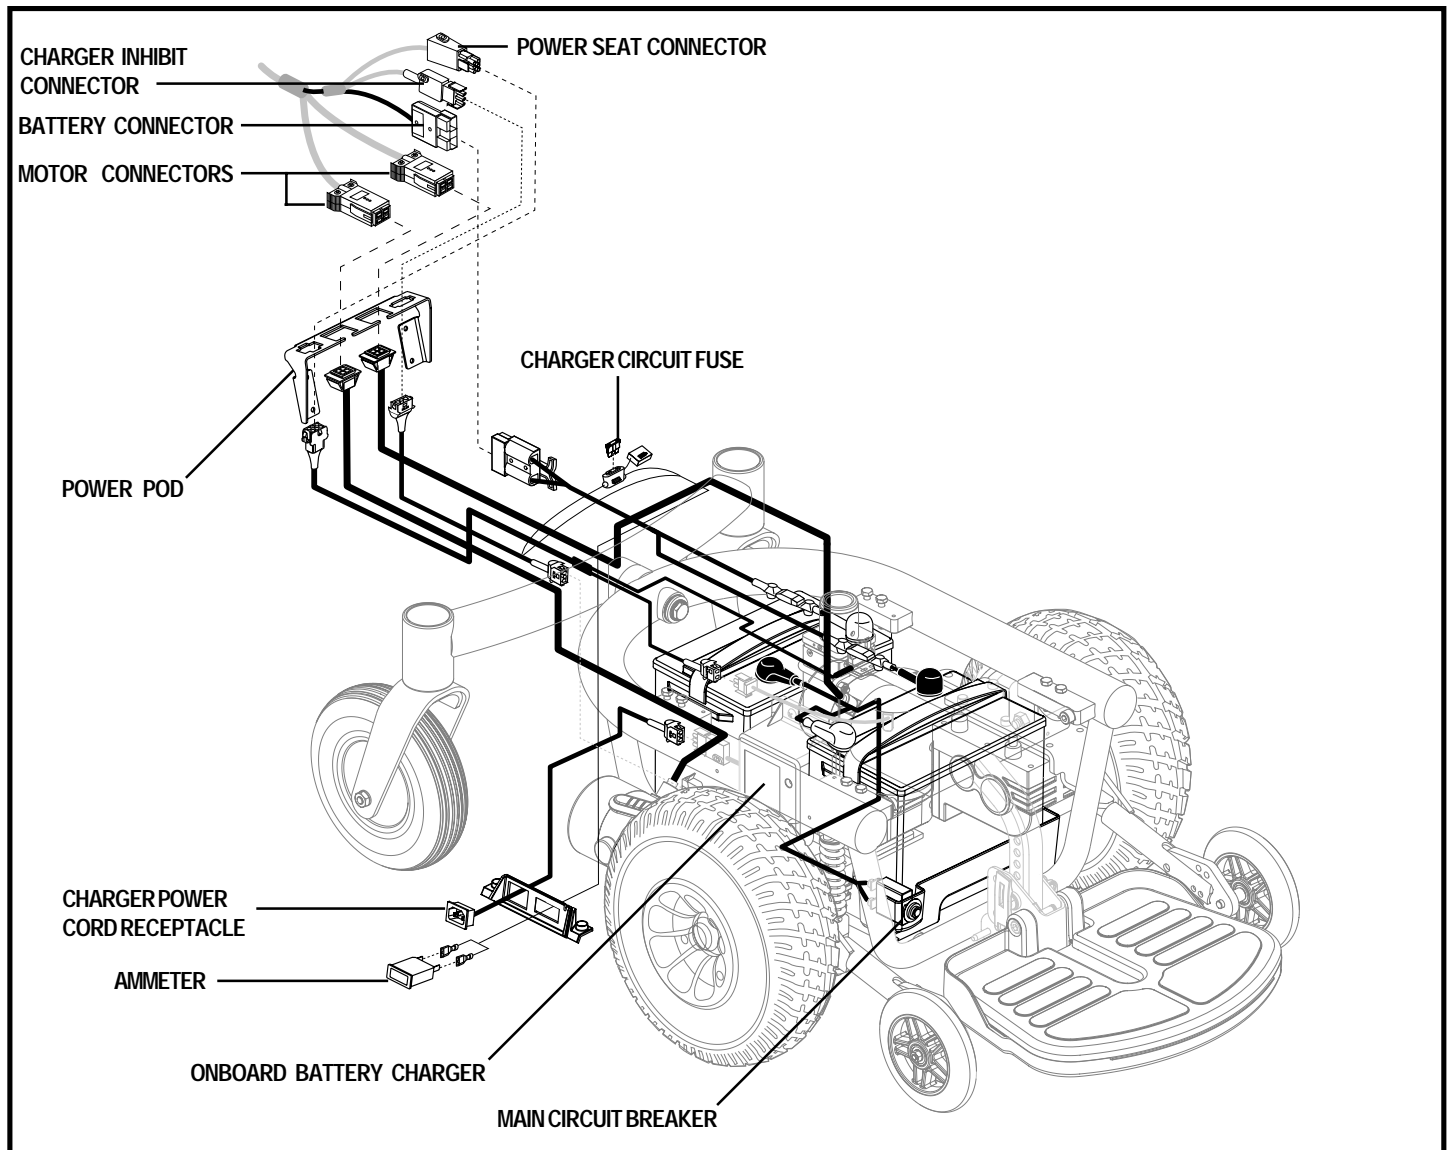

Figure 8. Jazzy 1143 Ultra Electrical Components (VSI controller shown)
The electrical components are located inside the power base. The ammeter and the charger power cord receptacle are located on the right side of the power base. The main circuit breaker is located on the front of the battery tray. The motor connectors, the charger inhibit connector, and the power seat connector are located on the power pod, inside the power base. See figure 8.
8. Plug the motor connectors, the charger inhibit connector, and the battery connector into the power base. See figure 8.